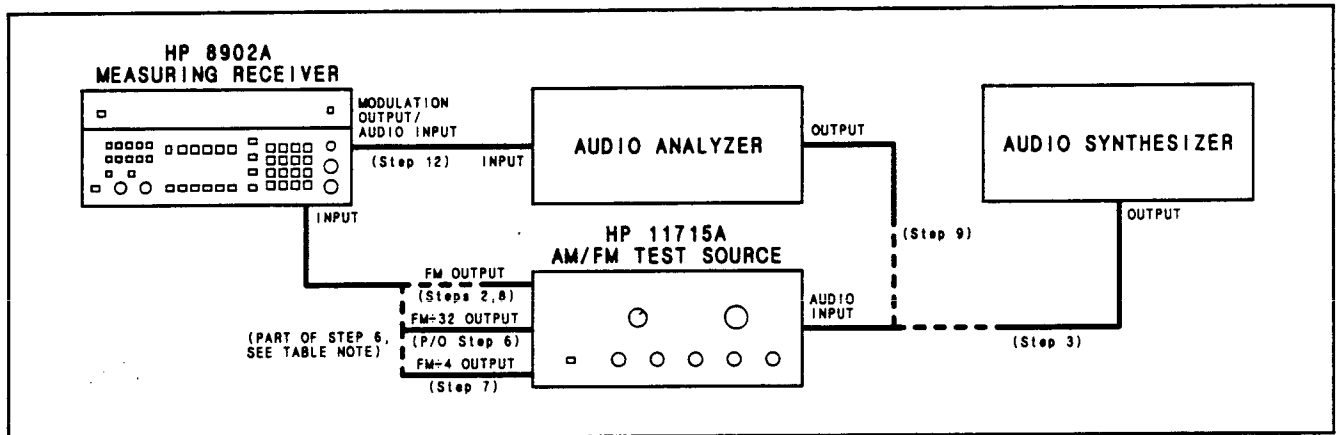

Figure 4-3. Φ M Performance Test Setup
2. On the AM/FM test source, set the test mode to FM. Connect its FM output to the Measuring Receiver's INPUT. (See Figure 4-3.)
3. Set the audio synthesizer to 200 Hz at -10 dBm. Connect its output to the audio input of the AM/FM test source. (See Figure 4-3.)
* Connect the FM÷32 output of the AM/FM test source to the Measuring Receiver's INPUT to make this measurement. (See Figure 4-3.) Press AUTOMATIC OPERATION, then MHz to return the Measuring Receiver. If the resolution is not 0.001 rad, press Φ M again.
- On the Measuring Receiver, key in 3.1 SPCL to set the IF to 455 kHz. Press FM. On the AM/FM test source, connect the FM÷4 output. (See Figure 4-3.) Set the audio synthesizer frequency as shown in the following table. Set the Measuring Receiver High Pass Filter as shown in the table. Set the audio synthesizer level to give the FM deviation shown in the table. After setting each FM deviation, press Φ M. For each setting, the Measuring Receiver's display should read between the limits indicated in the table.
- Connect the FM output of the AM/FM test source to the Measuring Receiver's INPUT. (See Figure 4-3.) Press AUTOMATIC OPERATION on the Measuring Receiver.
- Set the audio analyzer's oscillator to 1 kHz. Connect its output to the audio input of the AM/FM test source. (See Figure 4-3.)
12. Connect the audio analyzer's input to the Measuring Receiver's MODULATION OUTPUT/AUDIO INPUT. (See Figure 4-3.) Set the audio analyzer to measure the distortion on the 1 kHz signal at the MODULATION OUTPUT/AUDIO INPUT. Set the high-pass filter on the audio analyzer to 400 Hz. The distortion should be 0.1% (-60 dB) or less.